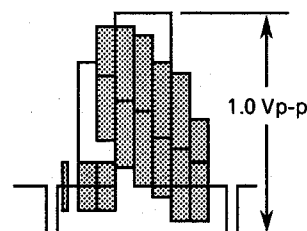

Figure 5-6.
7. Make sure that the amplitude of the playback colour bar signal is  $1.0 \pm 0.04\text{Vp-p}$  as shown in Figure 5-6.